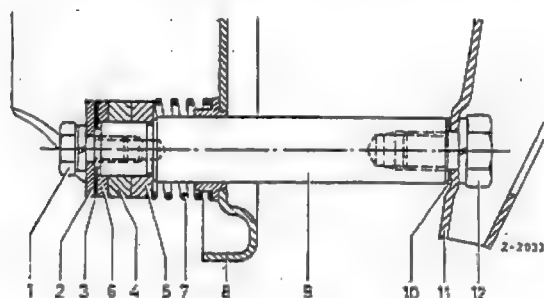

Fig. 42-9/3
Note: Arrangement of washers on 50 mm brake shoes: Washer (6) must be installed between the outer brake shoe (4) and the brass washer (3). The pressure spring (7) rests directly against the inner brake shoe (5) (Fig. 42-9/3).